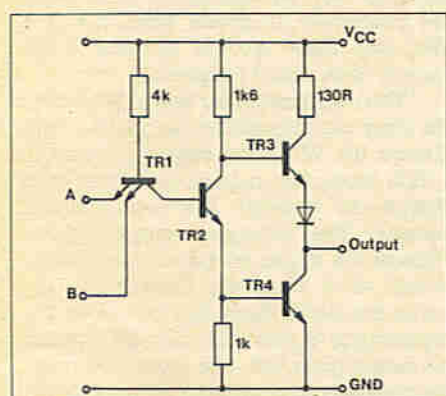

Figure 6. 7400: internal circuit of each gate.
The internal circuit of a 7400 (shown in Figure 6) is at first glance misleadingly similar to that of a straightforward amplifier. Its operation is however quite different. Part of the reason for this is that it (normally) only ever sees input signals that are near earth (logic 0) or near the positive supply rail (logic 1). As a result, its transistors are intended to be either saturated (ON) or deprived of base current (OFF).
shown in Figure 7. Comparing this circuit with that of an ordinary TTL gate (Figure 6) the basic similarity of the two is apparent, and apart from the use of a diode AND gate in place of the multi-emitter input transistor, the LSTTL gate works in much the same way as its TTL ancestor.